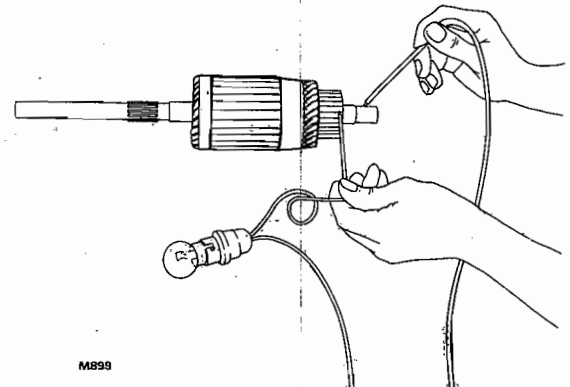

FIG. 3. CHECKING ARMATURE FOR EARTH
5. Check the armature for earth, using a 230 V test light, see Fig. 3. If the light illuminates; renew the armature.